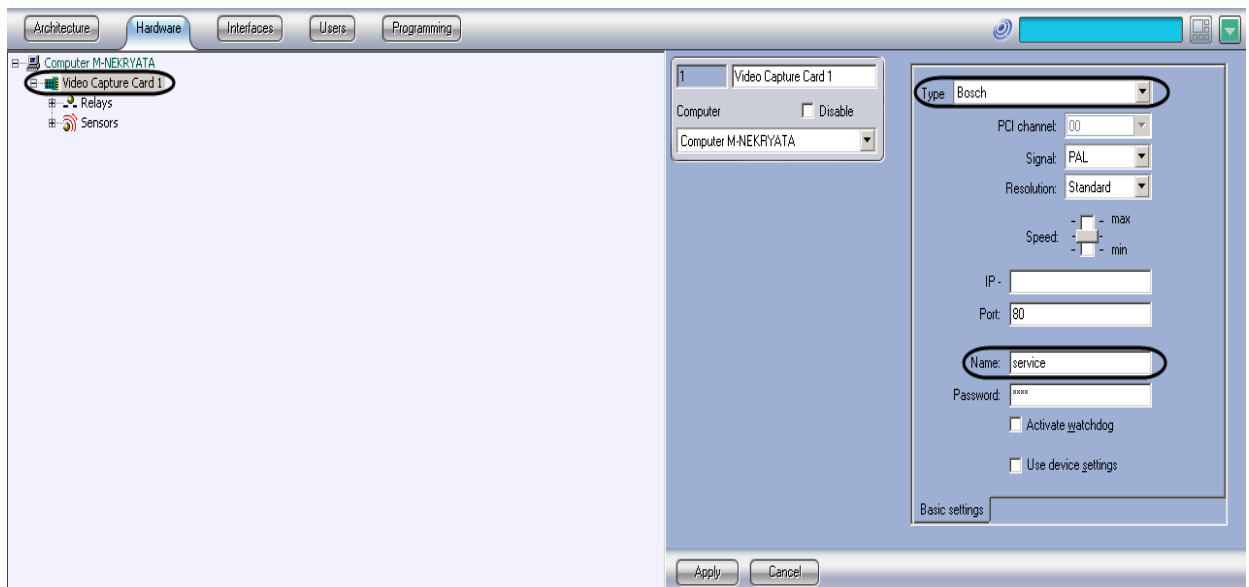

Figure 3.3-27 Configuring the Video capture card object of Bosch IP camera to connect relays
*Note. If relays are connected to Server via Bosh IP device, then enter the **service** value in the **Name** field (Figure 3.3-27). With another value the functionality of the relay is not performed on Server.*